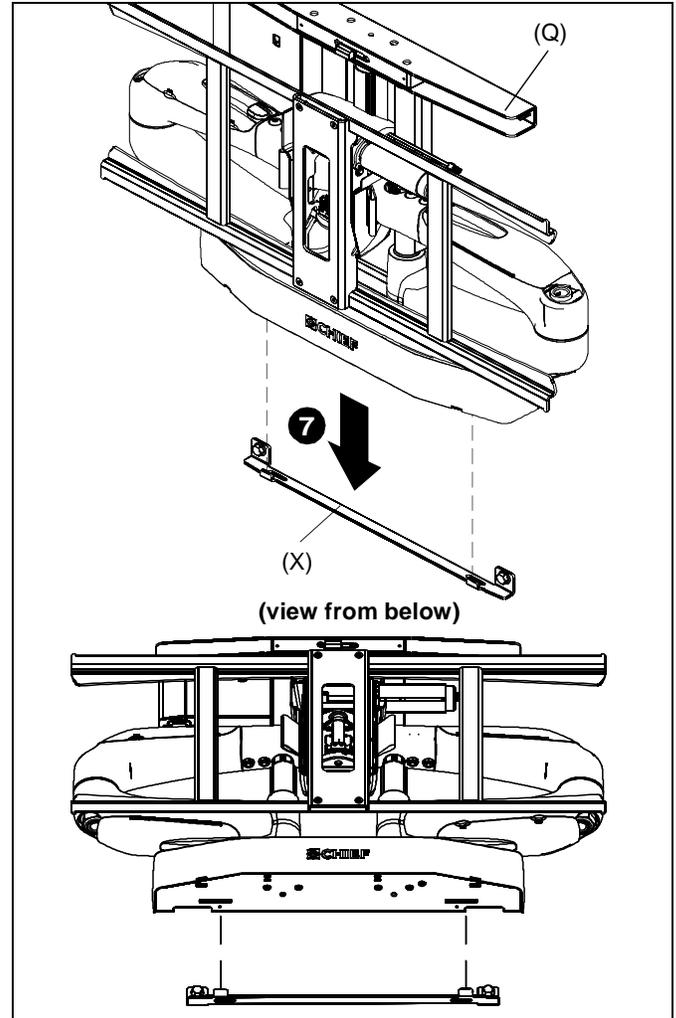

Figure 6
- Lower PXR (Q) onto mounting bracket (X), ensuring PXR fits over mounting bracket tabs. (See Figure 6)